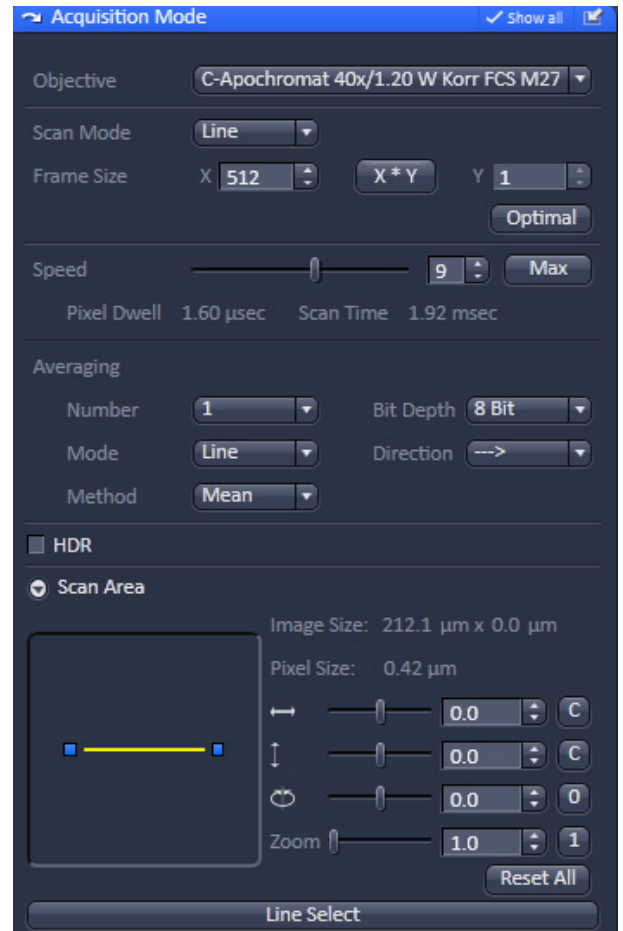

Fig. 281 Image settings for line scan mode
- Set up scan mode in the LSM **Acquisition Mode** tool (Fig. 281). Choose **Line** scan, highest Scan speed, 512 pixels and **Zoom 1** for convenience.